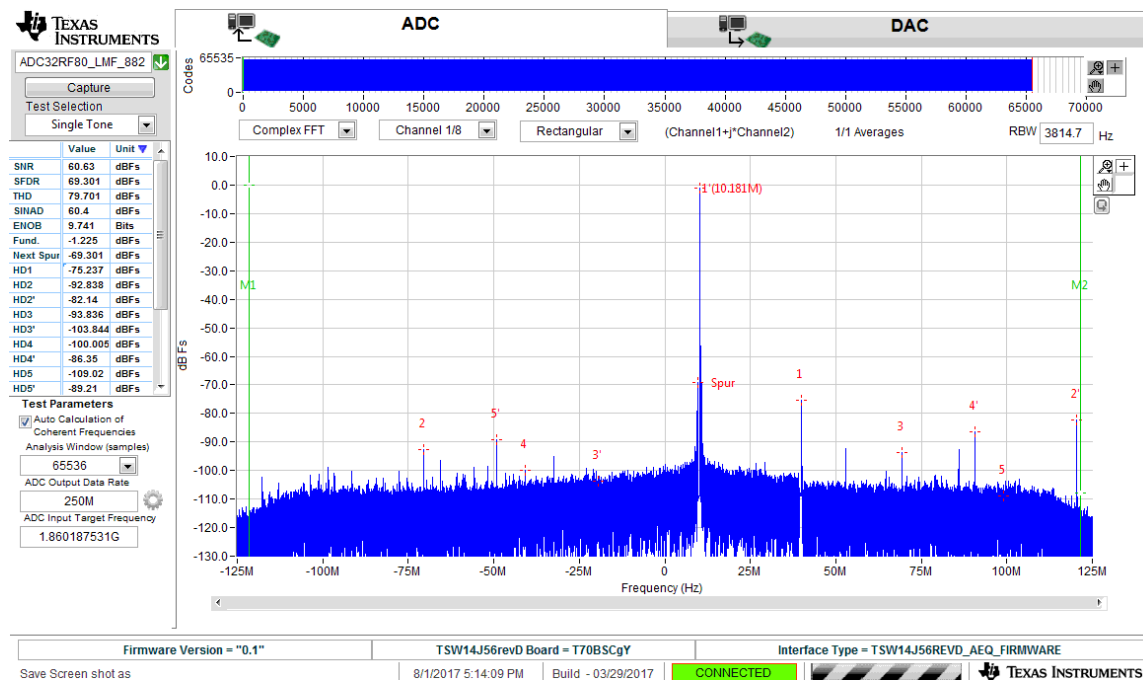

Figure 17. Example Capture From Channel A – 8x Decimation Mode
11. The result should match the example capture in Figure 17.